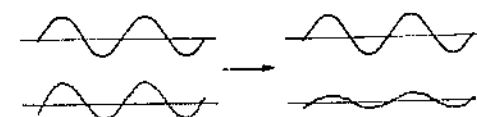

Fig. 64
- 1) Turn the FG level control (R482) fully clockwise and adjust the phase control (R483) so that the phase of the channel-1 signal is 180° out of phase with the channel-2 signal (Fig. 64).
- 2) Adjust the FG level control (R482) for minimum amplitude (Fig. 64).